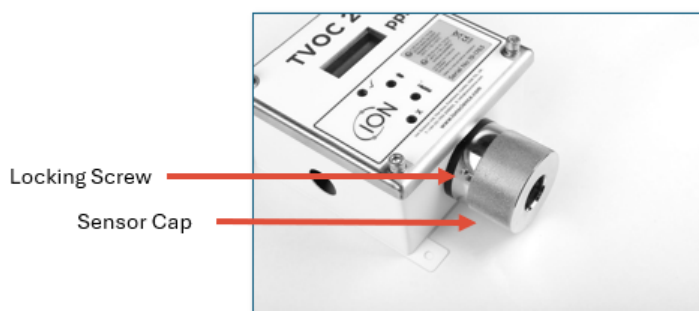

Figure 14 – TVOC 2 sensor cap and locking screw
2. Remove the locking screw from the metal sensor cap using the Allen key supplied in the TVOC 2 Accessory Kit - part number A-849214 (see Figure 14).